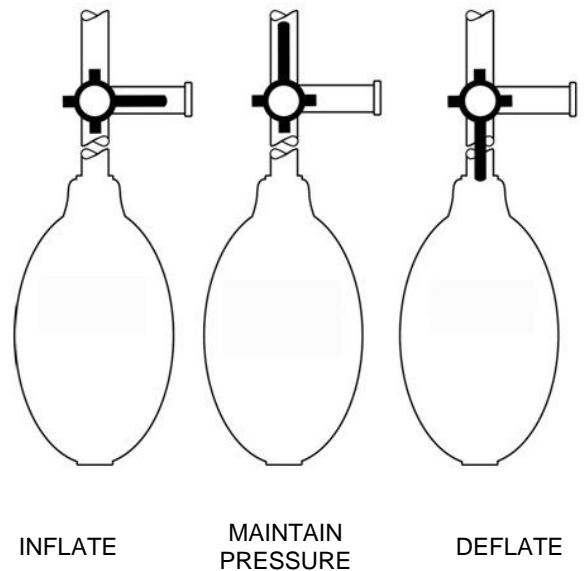

Figure 2: Air valve/stopcock handle positions
- 2- Hang the pressure infusion cuff on to IV pole by the eyelet (1) located at the top of the cuff.
- 4- Hang the IV fluid bag to the infusion cuff by feeding the Velcro hook strip (2) through the top opening of the IV bag and fastening it to the circular Velcro loop (3). Guide the tubing direct downwards.
- 5- Turn the air valve/stopcock (6) handle to right towards the open stopcock vent (see Figure 2).
- 6- Inflate the infusion cuff by pumping the inflation bulb (5) until the piston gauge reaches the proper pressure (300 mmHg) indicated in the green portion on the manometer. Check the pressure from the manometer (piston gauge) (4). Disposable pressure infusion cuffs are equipped with a 325 mmHg pressure relief valve that prevents over inflation. Once 325 mmHg is reached, the manometer will indicate red on the manometer along with the word "caution" and pressure will begin to release from the valve. Pressure will continue to release from the valve until pressure decreases below 325 mmHg.